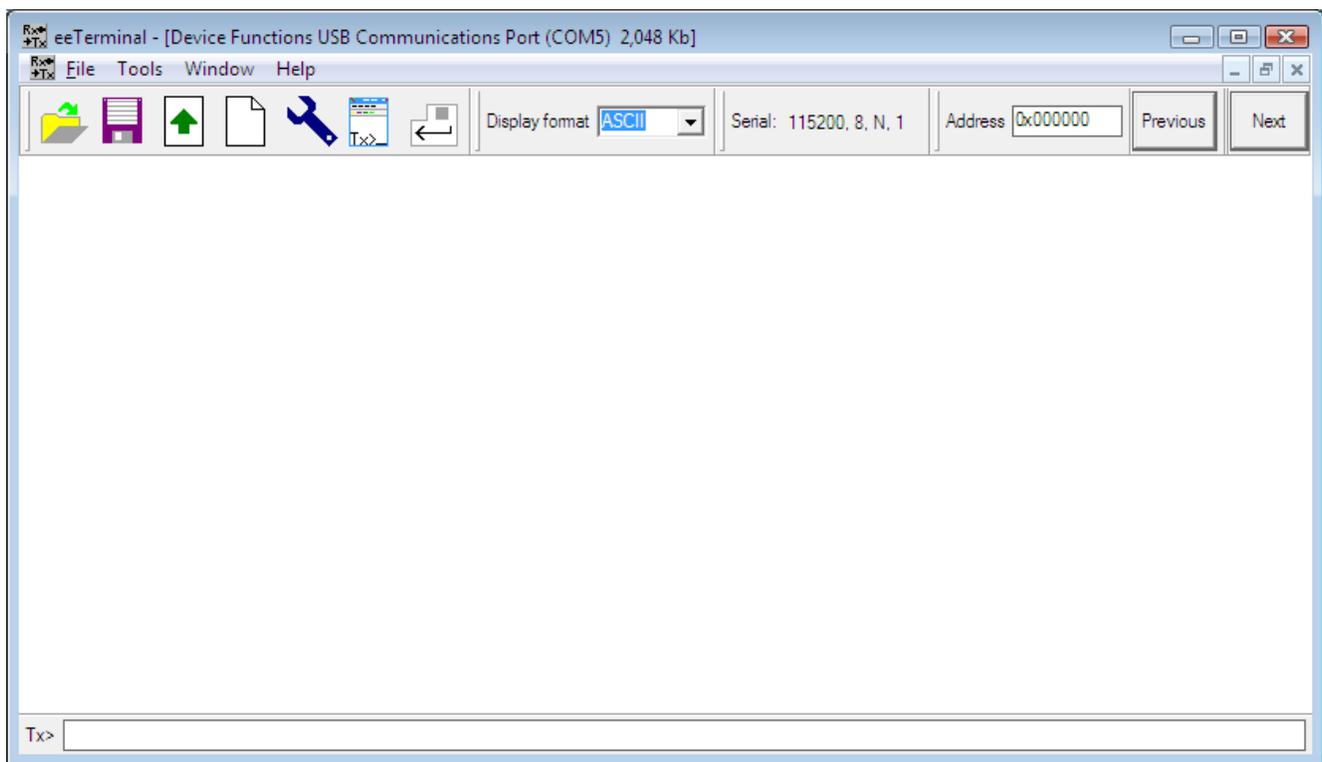

Figure 1
1. **Open Device.** To open a flash memory device, select **File** from menu bar, and select **Open Device**. eeTerminal lists all compatible devices in a pop-up window. Select the flash memory device by its COM port number from the list and click **Open** button. A memory access window, as Figure 1, will open. To open another device, click  on the toolbar or use **Open Device** from menu bar. Each device has its own window within **eeTerminal**. Window arrangement tools are under **Window** menu. The device windows can be placed side by side horizontally or vertically within **eeTerminal**.